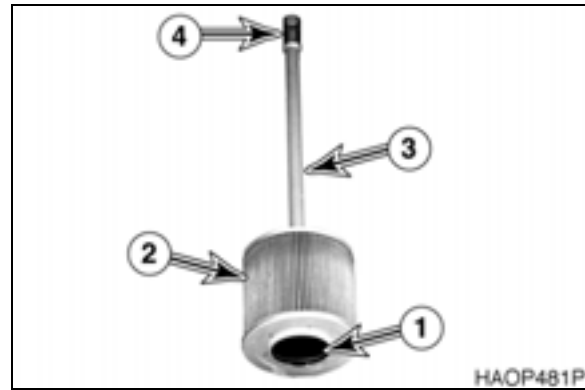

Figure 12
The filter element (2, Figure 12), retaining rod (2) and spring (4) are assembled as shown in Figure 12. The hole (1) in the base of the filter element fits over a circular base in the bottom of the reservoir. The retaining rod (3) screws into the top of the filter element (2), but the spring (4) slides over the top of the rod. Be certain that this spring does not fall into the tank during reassembly.